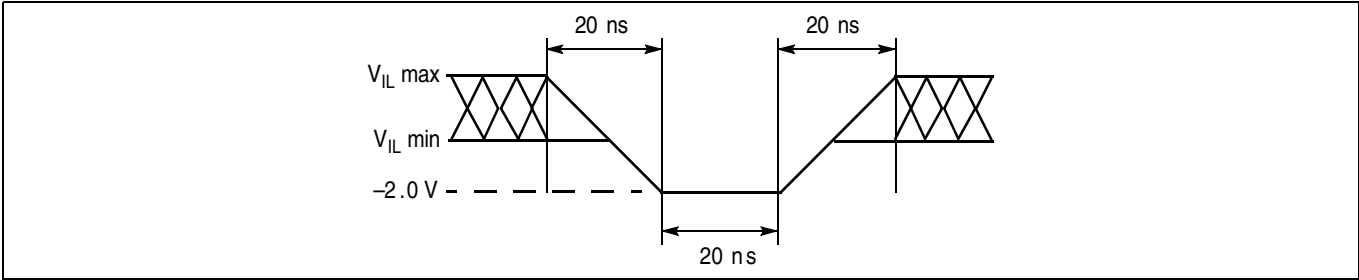
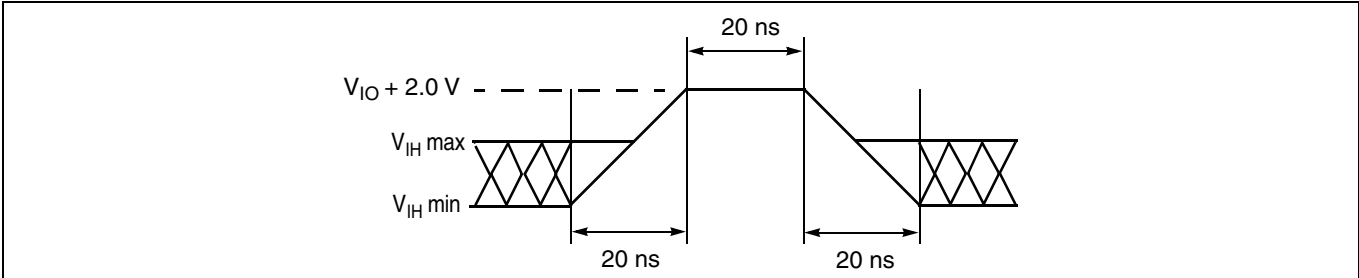

Figure 11 Maximum negative overshoot waveform
Figure 12 Maximum positive overshoot waveform
73. Minimum DC voltage on input or I/O pins is –0.5 V. During voltage transitions, input or I/O pins may undershoot V_{SS} to –2.0 V for periods of up to 20 ns. See Figure 11. Maximum DC voltage on input or I/O pins is V_{CC} + 0.5 V. During voltage transitions, input or I/O pins may overshoot to V_{CC} + 2.0 V for periods up to 20 ns. See Figure 12.